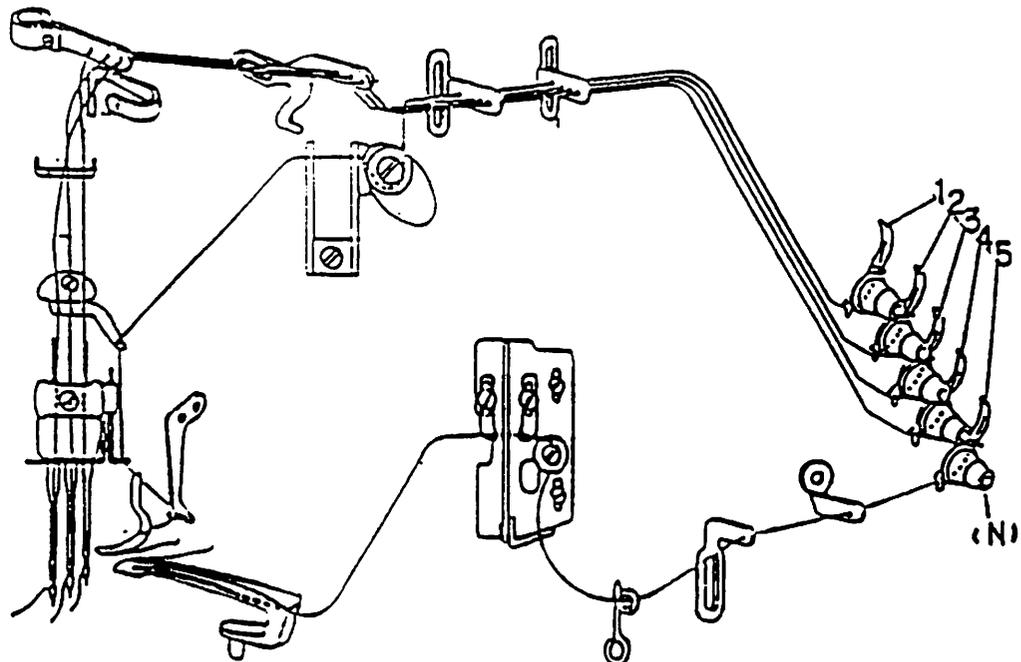

Fig. 4
(7) Threading Method (Fig 4)
Pass through both upper and lower threads correctly by referring to Fig 4. Adjust the tension of thread with the thread tension nut (N). Adjust so that satisfactory stitching can be obtained at a tension of threads as low as practicable.